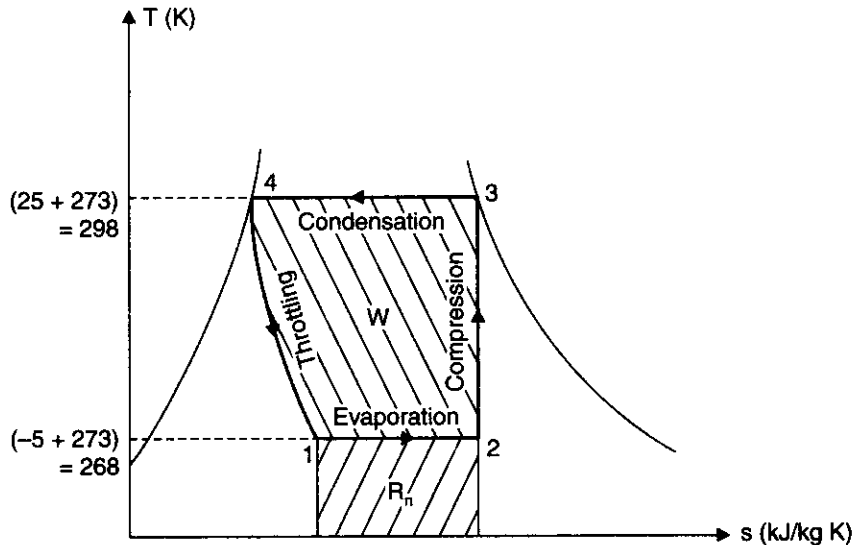

Fig. 14.25
**Solution.** Fig. 14.25 shows the  $T$ - $s$  diagram of the cycle.